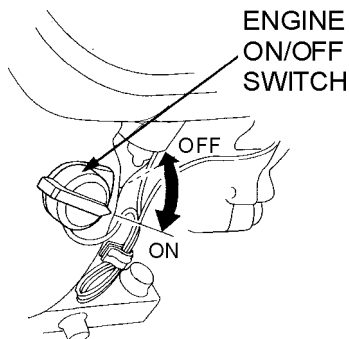

Figure 11. Engine ON/Off Switch
2. Place the **Engine ON/OFF switch** (Figure 11) in the "ON" position.
2. Place the **Engine ON/OFF switch** (Figure 11) in the "**OFF**" position.